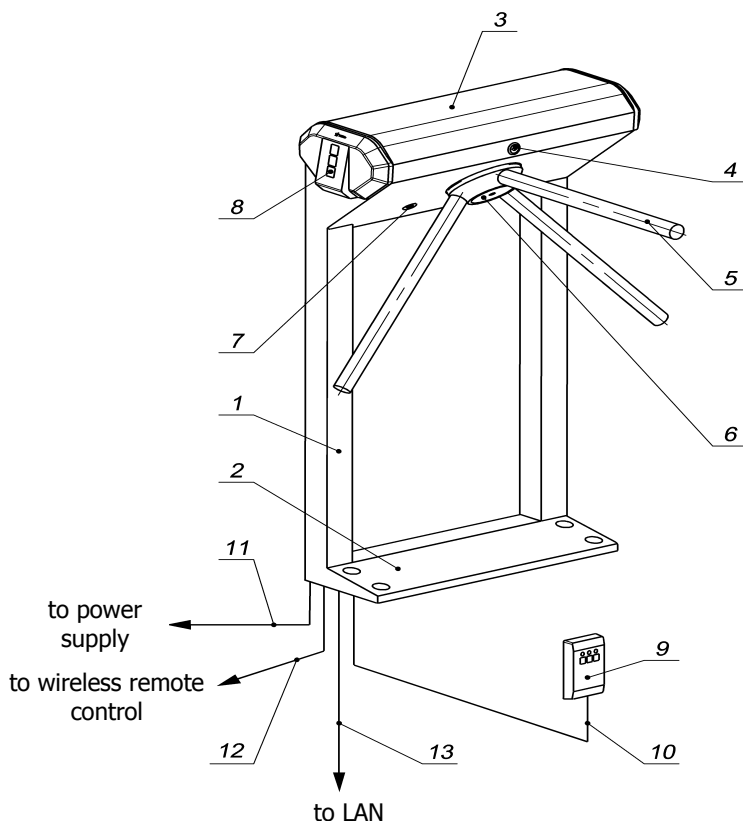
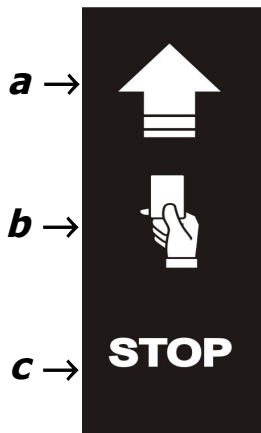
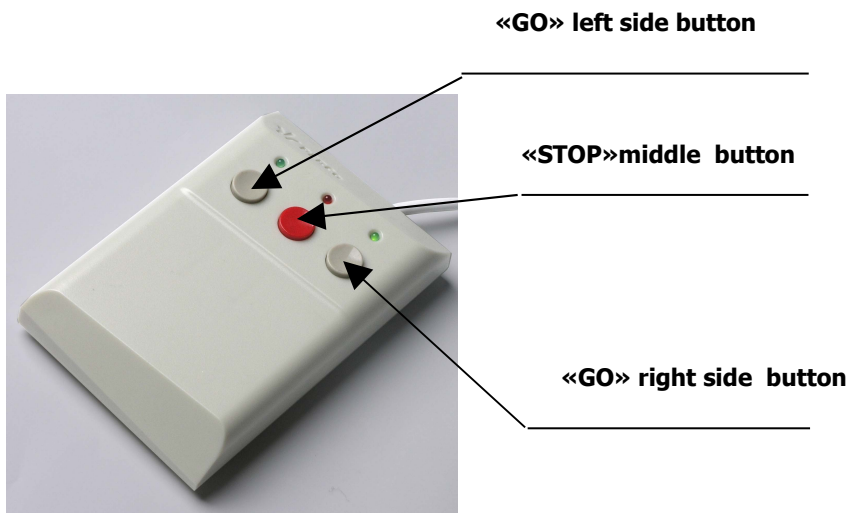

Figure 1 – KT-02 design :
Figure 2 – Visual indicators of the indication module
Figure 3 – Remote control panel
KT-02 consists of a housing with an inbuilt controller and two readers, three barrier arms and a remote control panel (ref. Figure 1, parts 1-3, 5 and 9). After each passage through KT-02 the barrier arms are automatically reset in the home position.
The indication module features three visual indicators (ref. part 8 in Figure 1 and Figure 2):
The remote control panel is connected to the housing with a cable (ref. parts 9-10 in Figure 1 and Figure 3) and features:
KT-02 is connected by cables to a power supply unit, an wireless remote control device (if applicable, ref. Section 10 below) and to a local area network (ref. parts 11-13 in Figure 1).
- insert the key into the mechanical release lock (part 7 in Figure 1);